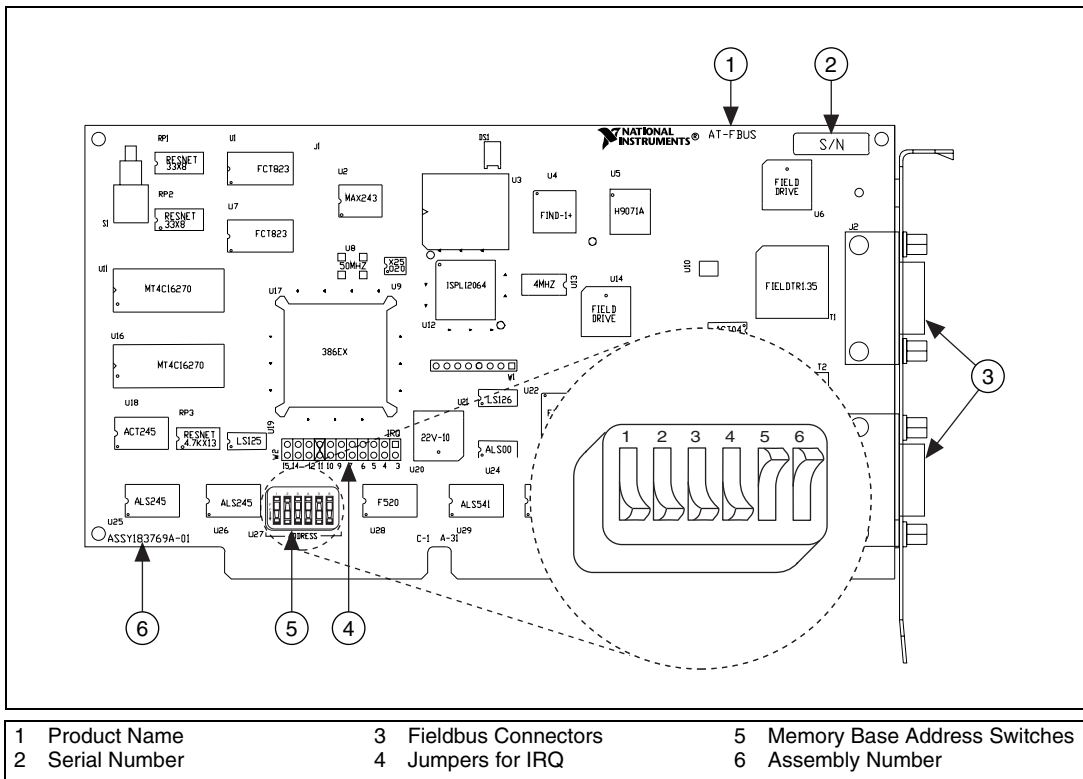

Figure 2-1. AT-FBUS/2 Parts Locator Diagram
Figure 2-1 shows the location of the switches, jumpers, and two connectors on the AT-FBUS/2 board. If you are using the single-port AT-FBUS, your board has only one connector.
1. Find the jumpers that set the interrupt request line. Refer to Figure 2-1. The jumpers are located on the lower edge of your AT-FBUS board. The number on the board under each pair of pins corresponds to an AT bus interrupt level.
1. Locate the memory base address switches on your AT-FBUS board. Refer to Figure 2-1.